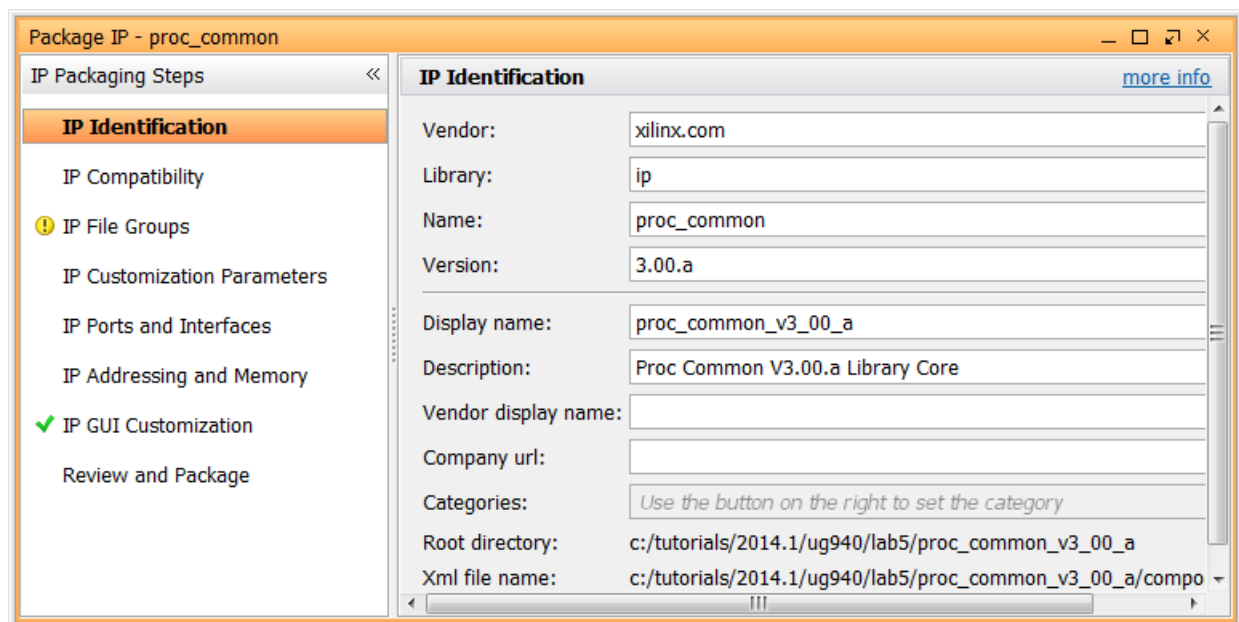

Figure 142: Package IP Tab
- Select the **Package IP** tab (FIGURE 142).